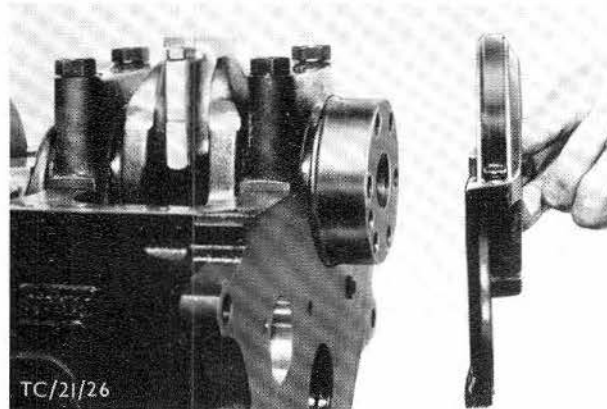

Fig. 33. Rear oil seal carrier.
30. Remove rear oil seal carrier (4 bolts), Fig. 33.